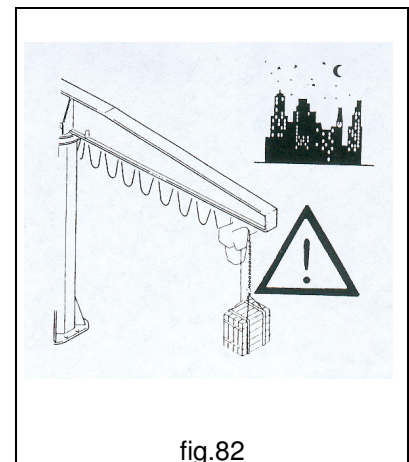

fig.82
- **NEVER** leave the suspended load unattended (fig.82).